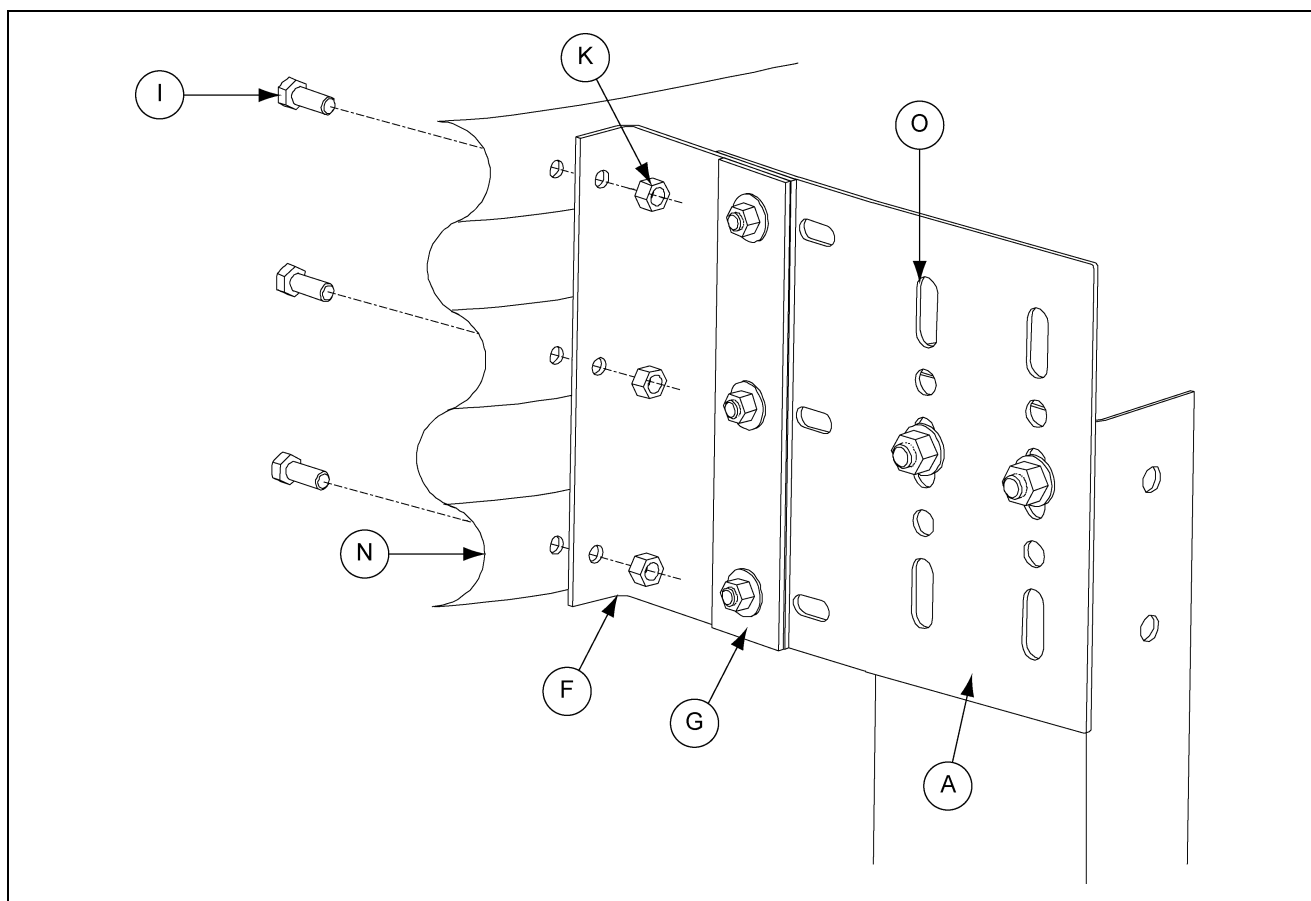

Figure 2K
3. Take columns and set on foundation so anchor bolts go through angle joints. The bin bracket bolt holes should line up on the “hills” of the corrugation (See Figure 2K).
4. If holes do not line up on the “hills” of the corrugation, then you need to remove the **LATERAL BRACKET (STC00355)** from the column and reattach it to the column using the slots in the lateral bracket. (See Figure 2K) Then adjust the lateral bracket up or down in the slots to line the holes in **BIN BRACKET (STF00016)** on the “hills” of the corrugation. Then fully tighten lateral bracket bolts.